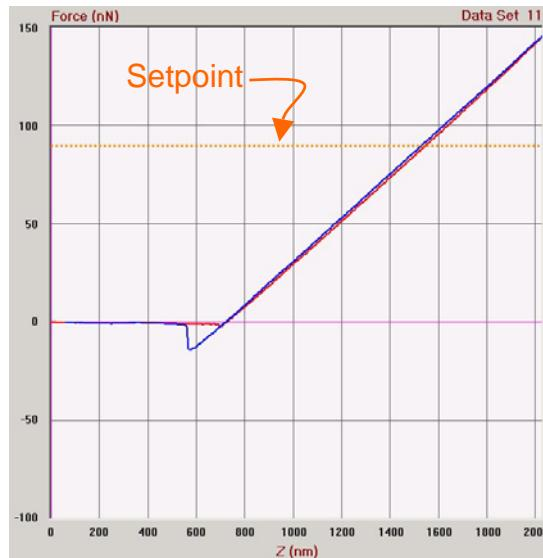

Figure 10-9 The SPM setpoint displayed against a force-distance curve.
4. Select the *Graph* tab panel and check the *Show Setpoint* checkbox. A horizontal orange line will be overlayed on the graph to indicate the current setpoint force value. This is also shown in Figure 10-9. It may be necessary to change the vertical scale of the graph if the current setpoint force is higher than the range of the indentation force measurement.